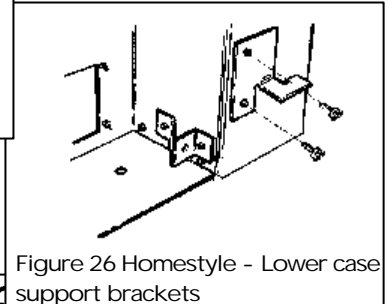

Figure 26 Homestyle - Lower case support brackets
9.2.1 Fit the two lower case support brackets near the bottom of the convection box side flanges. See figure 26.